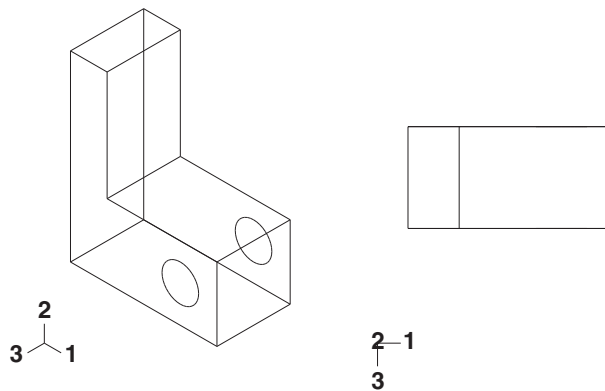

Figure 5-13 Specifying a total rotation angle.
- **Total Rotation From (0,0,1).** When you choose **Total Rotation From (0,0,1)**, Abaqus/CAE first rotates the view to the default position (a view looking down the 3-axis with the 1- and 2-axes in the plane of the screen) and then applies the desired rotation. Figure 5-13 shows the result of applying a total rotation of 90, 0, 0 from the isometric view.